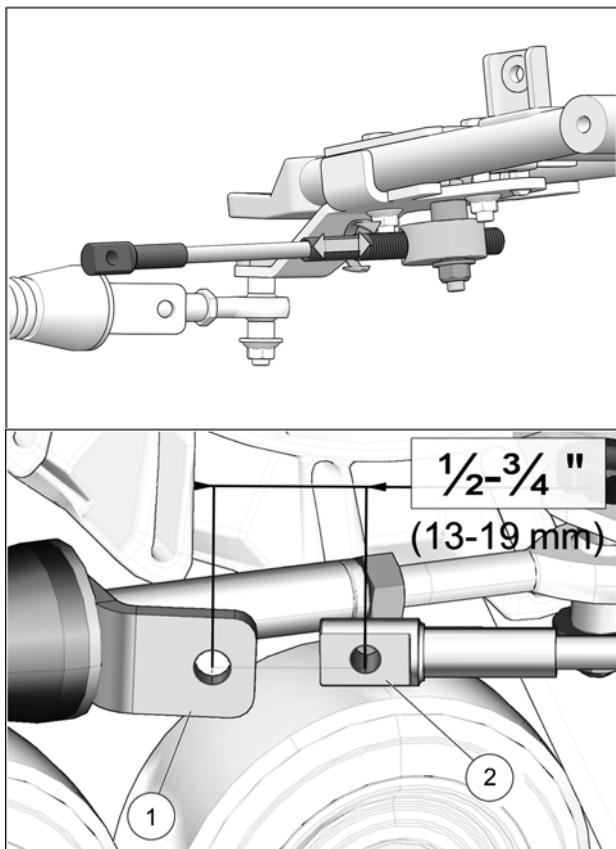

Fig. 22
12. Turn the vehicle's steering wheel to its maximum point of travel on the left. While maintaining pressure on the steering wheel, turn threaded rod to adjust length of cable so that the cable end hole (**1**) is located 13 to 19 mm [$\frac{1}{2}$ to $\frac{3}{4}$ in.] short of the mounting hole on the support plate (**2**). See Fig. 22